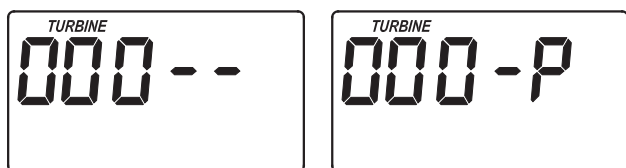
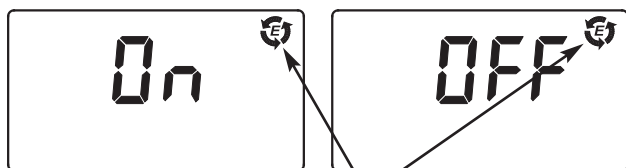
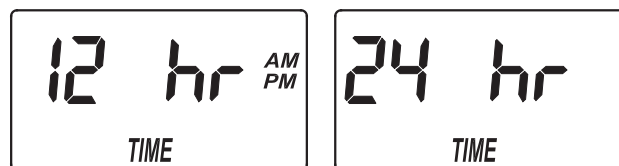

FIG. 22
FIG. 23
FIG. 26
1. Press and hold the PROGRAM button until one of the screens in Figure 22 is displayed. Once in this display, press the PROGRAM button once, and one of the two displays in Figure 23 is shown.
1. Press and hold the PROGRAM button until the screen in Figure 22 is displayed. Once in this display, press the PROGRAM button two times, and the display in Figure 25 is shown.
1. Press and hold the PROGRAM button until the screen in Figure 22 is displayed. Once in this display, press the PROGRAM button three times, and one of the two displays in Figure 26 is shown.